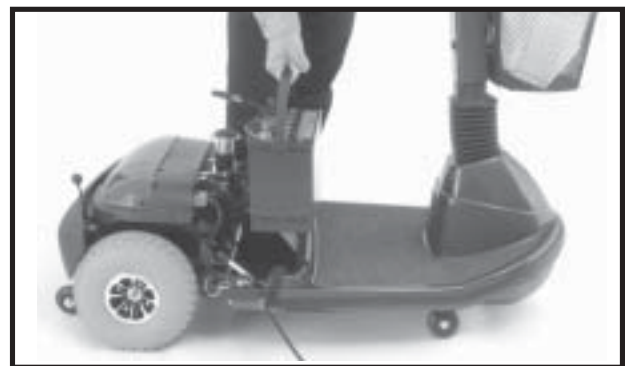

Figure 21. Battery Removal
- Lift both batteries off the scooter. See figure 21.